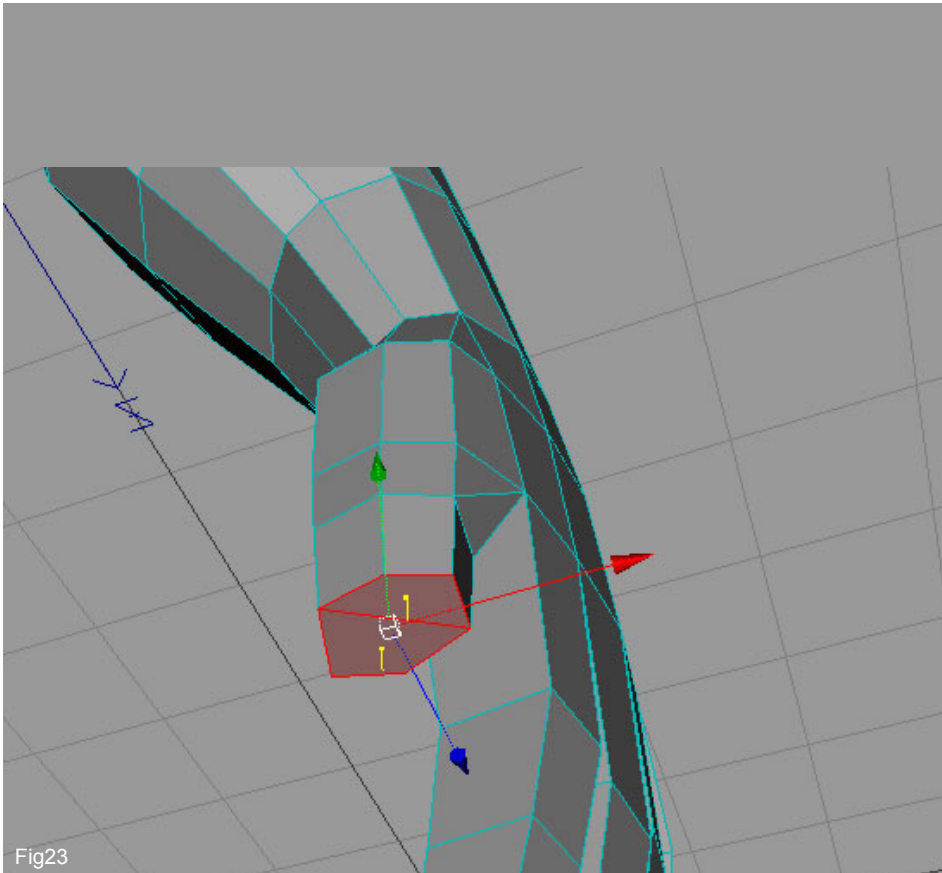

Fig23
18. Extrude the polygons once again, as shown in Fig23.